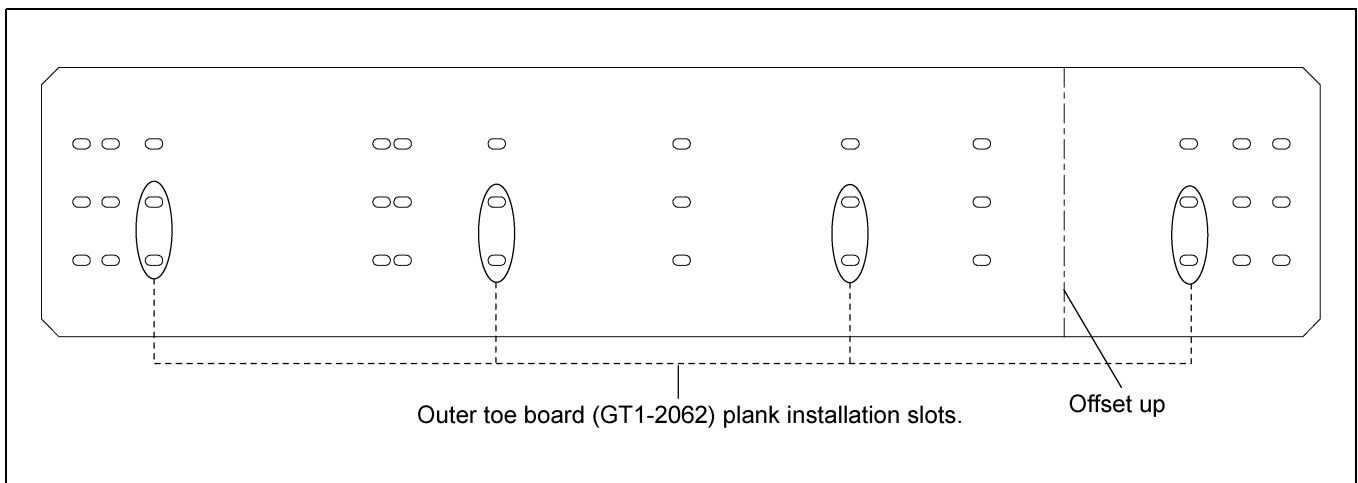

Figure 5H 12' Outer Toe Board (GT1-2062)
3. Outer toe board (GT1-2062) is arranged with many slots to install plank. Install planks to corresponding slots as shown in Figure 5H.